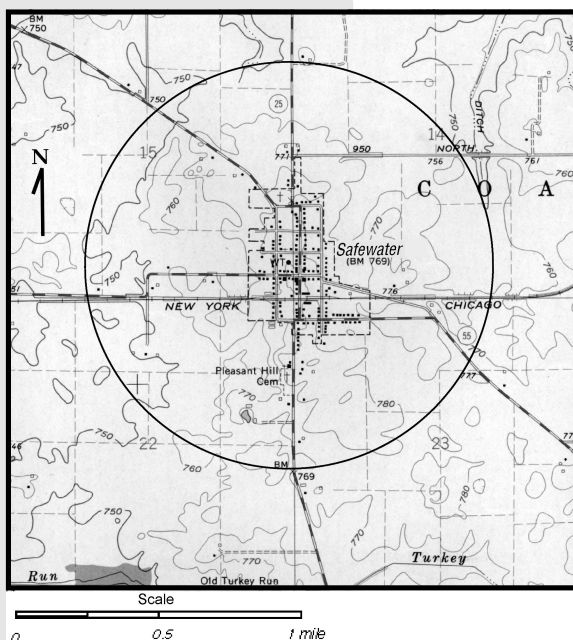

Figure 1. Topographic quadrangle map showing 3000-foot wellhead protection area
- **Topographic Quadrangle Map**—If you have a system small enough (pumping less than 100,000 gallons per day) you are eligible to apply to IDEM to use the 3000-foot radius as the wellhead protection area. You are required to submit a topographic quadrangle map showing the delineated wellhead protection area to IDEM (Figure 1). You can enlarge this map to double its normal size and use it as your base map.